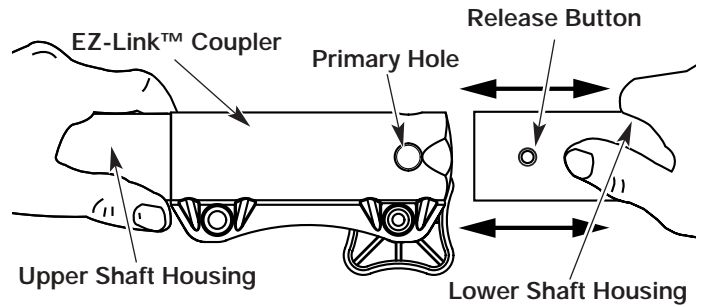

Fig. 10
2. While firmly holding the add-on, push it straight into the EZ-Link™ coupler (Fig. 10).
CAUTION: Lock the release button in the primary hole (Fig. 10) and securely tighten the knob before operating this unit.
3. While firmly holding the upper shaft housing, pull the cutting attachment or add-on straight out of the EZ-Link™ coupler (Fig. 10).